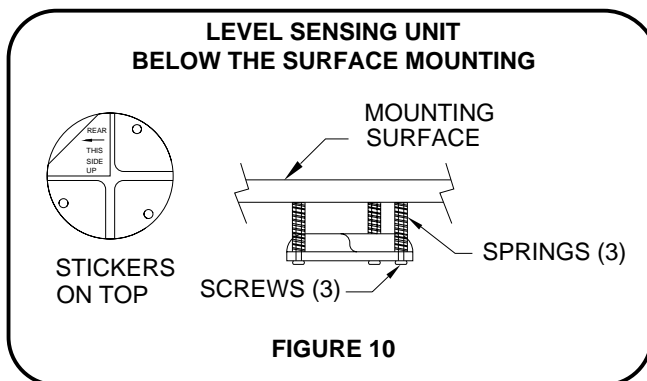

FIGURE 10
**9. MOUNTING THE SENSING UNIT:** The Level Sensing Unit can be mounted above or below the surface as long as the "This Side Up" sticker (FIGURE 10) is facing up and the "Rear" arrow is pointing to the rear of the coach. The sensing unit must be mounted to a solid surface that will not flex. Do NOT mount the sensing unit near any heat-emitting items. Outside of the frame rails is preferred. The sensing unit must be at least 12" away from exhaust pipes or other high temperature components, and must not be in line of sight from these high temperature components.
Level the coach by placing a circular bubble level in the center of the freezer floor or location within the coach that is to be level. With the coach level, adjust the sensing unit until all yellow lights are off. This is done by drawing up the corresponding screw if the sensing unit is mounted above the surface. Bump the sensing unit to see that it has settled down in the level position. See FIGURE 10 of PART III.